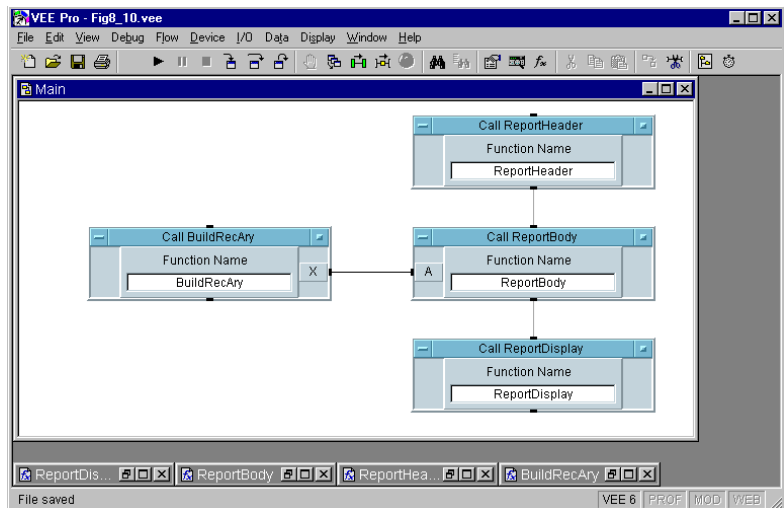

Figure 191 Report.vee from the Top Level
- b In Main, create four **Device** $\Rightarrow$ **Call** objects configured and connected as shown in Figure 191. Save the program as **Report.vee**.